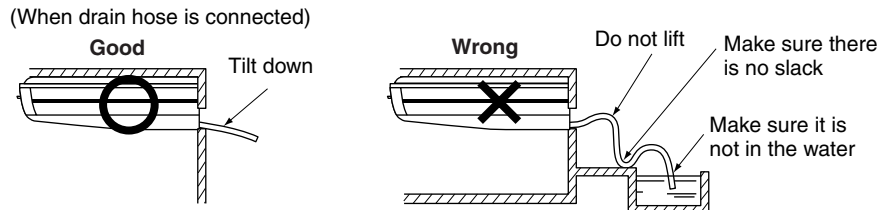

Fig. 21
- Keep the drain pipe short and sloping downwards at a gradient of at least 1/100 to prevent air pockets from forming. (Refer to Fig. 21)
- Use the drain hose (1) and the metal clamp (2).